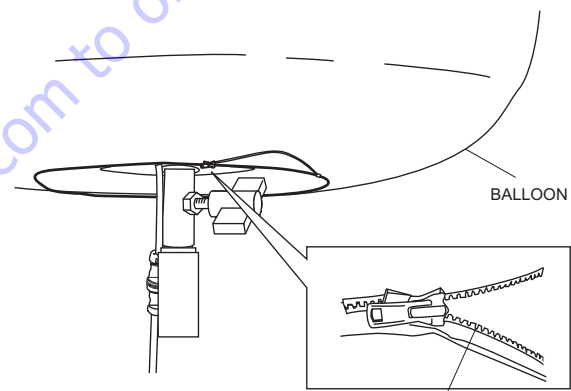

Figure 29. Unzipping Balloon
1. Unzip the bottom -of the balloon. See Figure 29.